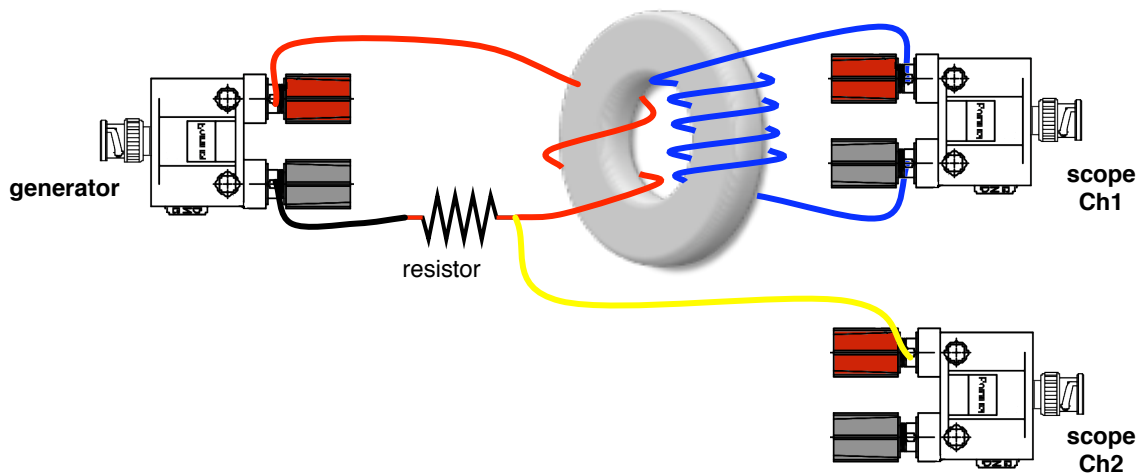

Figure 4.1. Configuration of the CTL4 experiment.
- Hookup the second channel of the scope as shown in Figure 4.1. Pay attention to how you wired the red wire from the resistor, it is possible to ground the generator through the ground of the scope.